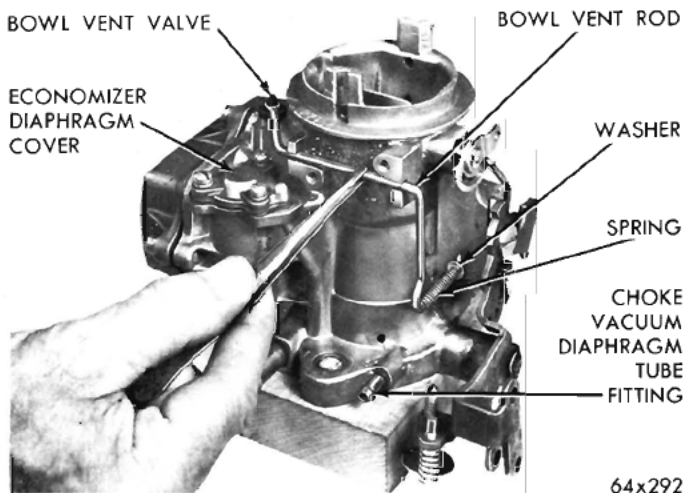

Fig. 4—Removing or Installing Bowl Vent Rod
- (4) Remove the choke vacuum diaphragm and bracket assembly and place to one side to be cleaned as a special item.
**NOTE:** As the vacuum diaphragm bracket is being removed, the bowl vent valve rod, spring and washer assembly, (Fig. 4) will drop off.
- (5) Using a  $\frac{5}{8}$ " wrench, remove the fuel inlet nee-